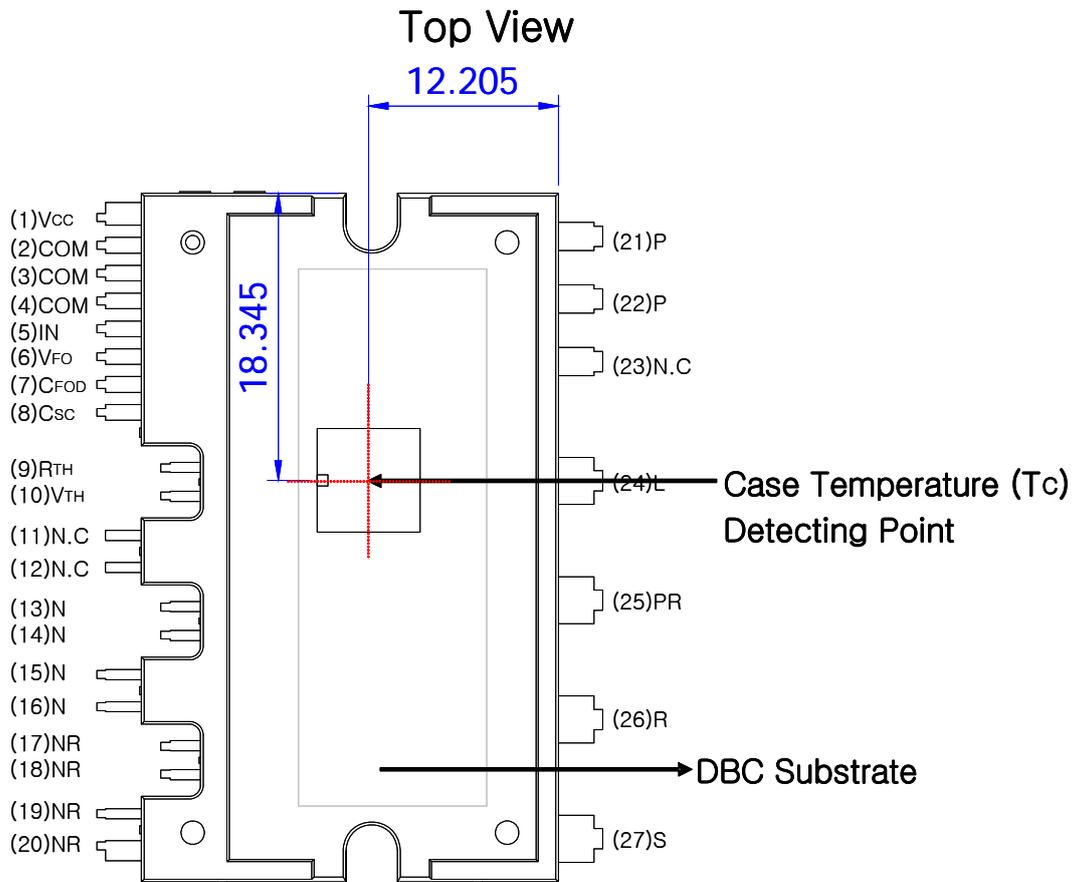

Figure 2. Top View
1. For the measurement point of case temperature( $T_c$ ), please refer to Figure 2.